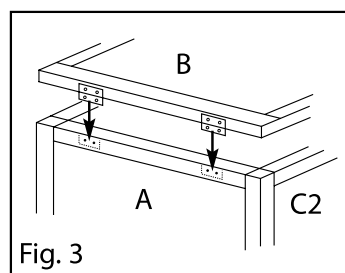

Fig. 3
6. Place the lid (**B**) in position so that the hinges are at the back and are facing downwards. Line up the lid with the frame sides and hold firmly whilst attaching the hinges to the back panel (**A**) using screws (**I**) (see Fig 3).